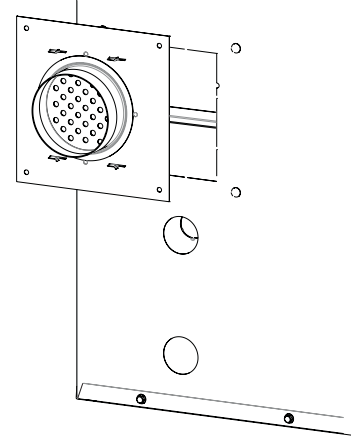
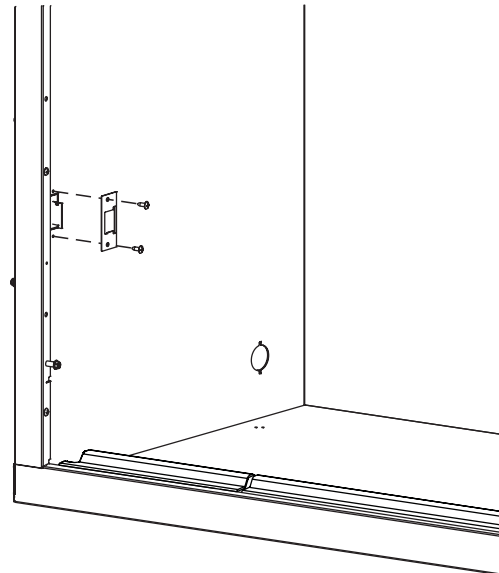

Figure 15
Figure 16
3. Insert Slide Assembly through the cut-out as shown in Figure 15. Before you fasten ensure that the handle penetrates the inner firebox wall. See Figure 16. Fasten the Slide Assembly with the four 10 x 1/2 Hex Head Screws provided.
4. Fasten the Handle Retainer to the firebox side with two 10 x 1/2 Phillips Truss Head Screws as shown in **Figure 16**.